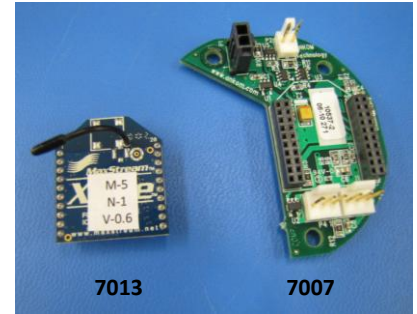

Figure 1
1. To replace the circuit board and/or RF chip, you should have received a replacement circuit board, part #7007, and/or a RF chip part #7013. Reference Figure 1.